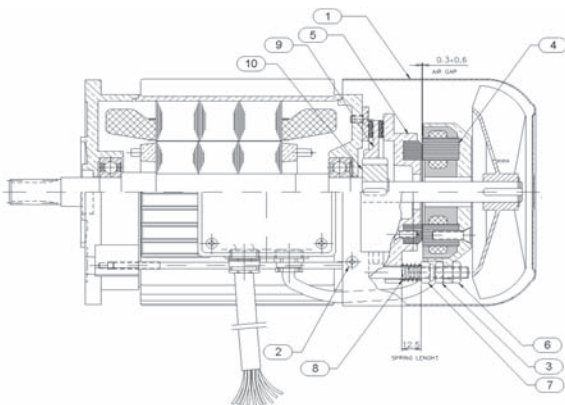

Figure 11, Two-speed Brake Motor, ABK101
The procedure for resetting the air gap, figure 11, is as follows:
It is advisable to replace the brake disc when its thickness falls below 6 mm. The procedure for its replacement is as follows, figure 11:
- Remove the protective cover for the brake (1) and the fan.
- Unscrew and remove the nuts (6).
- Carefully remove the magnet (4) and ensure that it is supported, in order to prevent damage to the cable connecting it to the motor.
- Remove the nuts (3) and (7), the springs (8) and the free yoke (5).
- Remove the brake disc (9). Clean and de-lubricate the friction surfaces and the toothed component (10).
- Check that the new disc (9) does not contain any impurities on the serrated section, and then attach it to the toothed component (10). The correct assembly position is shown in figure 11.
- Check that the part has no difficulties with axial movements. Insert the free yoke (5) into the guides, and slide it until it rests on the brake disc.
- Insert the springs (8) and the nuts (7) to a spring length (8) of 12.5 mm.
- Position the nuts (3), the magnet (4) and another set of nuts (6).